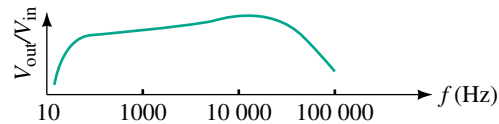

FIGURE 24–49 Frequency response curve, audio transformer.
Audio transformers must operate over a range of frequencies. Consider again $\Phi_m = E_p/4.44fN_p$. As this indicates, decreasing the frequency increases the core flux and hence the magnetizing current. At low frequencies, this larger current increases internal voltage drops and hence decreases the output voltage as indicated in Figure 24–49. Now consider increasing the frequency. As frequency increases, leakage inductance and shunt capacitance cause the voltage to fall off. To compensate for this, audio transformers are sometimes designed so that their internal capacitances resonate with their inductances to extend the operating range. This is what causes the peaking at the high-frequency end of the curve.
- Determine its equivalent circuit as per Figure 24–42(b).